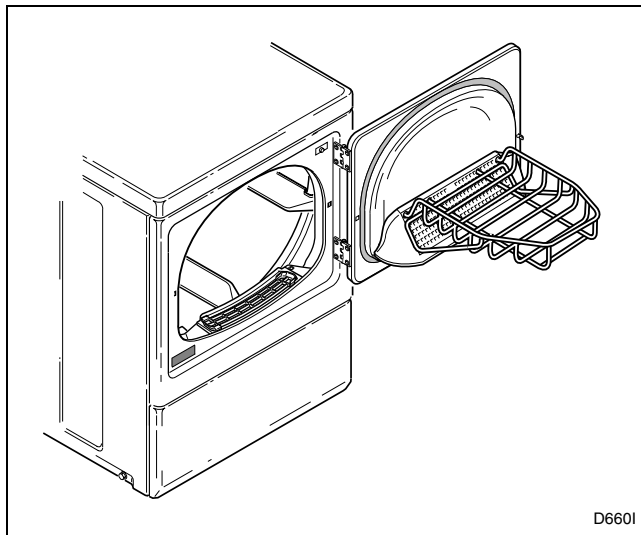

Figure 11
The rack can be installed by inserting drying rack mounting into the two (2) round holes in door. Refer to *Figure 11*.